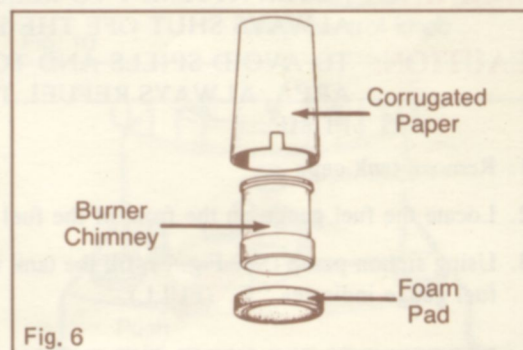

Fig. 6
4. Remove the corrugated paper wrapping the burner and the foam pad under the burner (See Fig. 6).